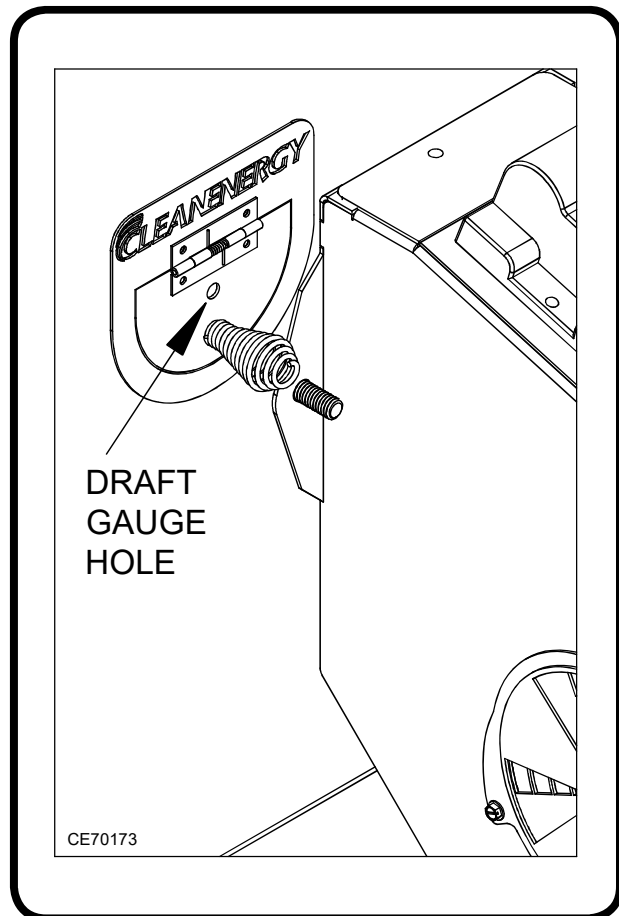

Figure 27: Draft Gauge Hole in the Observation Port
- (1) Allow the furnace to run for 5 to 10 minutes.
- (2) Refer to Figure 27 to locate the draft gauge hole.
- (3) Insert a draft gauge through the hole in the observation port. Follow the manufacturer's instructions for adjusting the barometric damper to obtain -0.02 " w.c. draft over fire.
- (4) If a proper draft is not obtained, follow the instructions below to check for a vacuum in your building.